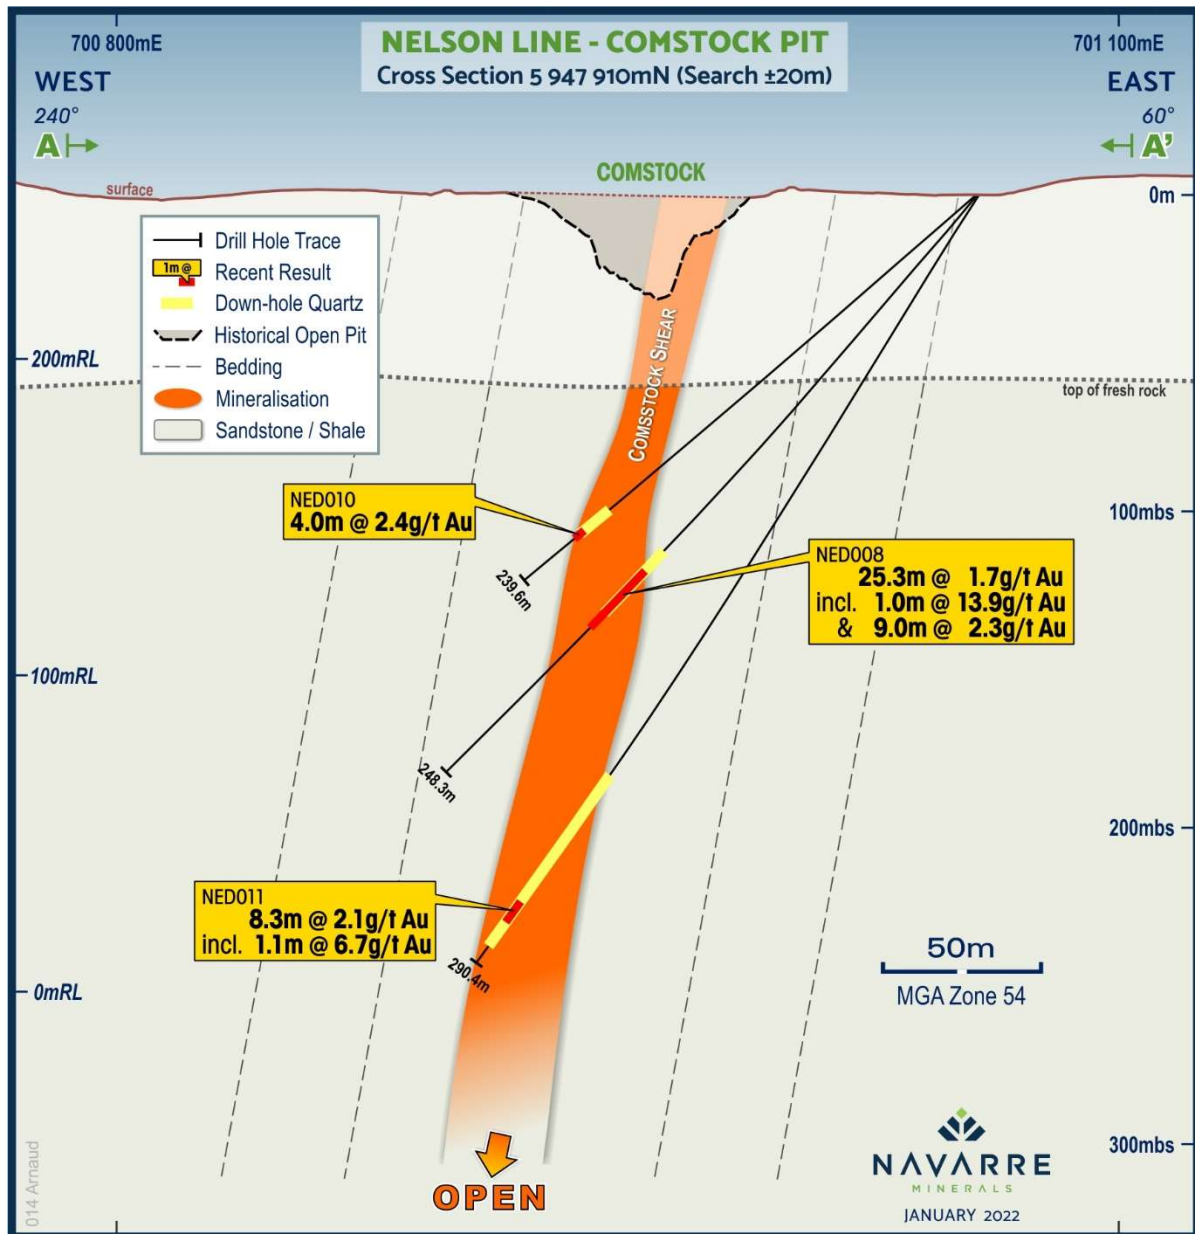

Figure 6: Cross section interpretation through a gold shoot located in the northern end of the old Comstock open pit (refer to Figure 4 for location).
1. Gold mineralisation occurs in planar, bedding parallel to slightly oblique northwest trending quartz reef structures that are generally inclined steeply to the west at approximately 70 – 75 degrees (Figure 6).